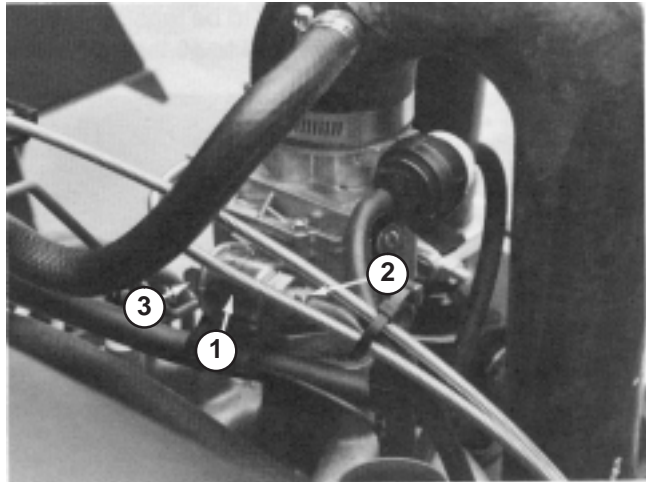

Figure 29
1. Disconnect elbow fitting from rear of fuel filter (Fig. 29).
2. Disconnect front of filter from elbow fitting (Fig. 29).